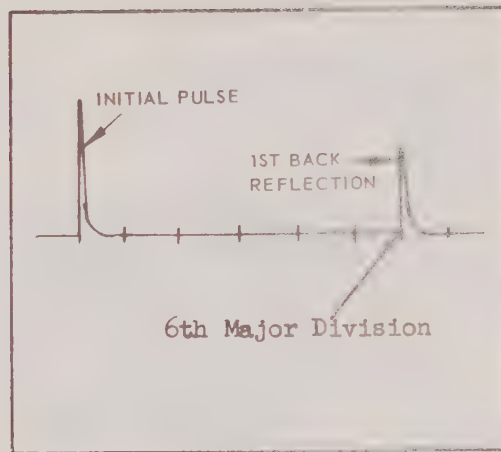

Figure 3-6 Initial Pulse and 1st Back Reflection
2. Place search unit to a position on reference block at which only the back Reflection shows. Set Sweep Control to .5" per division. The leading edge of the Initial Pulse and the leading edge of the Back Reflection should appear as shown in Figure 3-6 when the material control has been adjusted for aluminum.